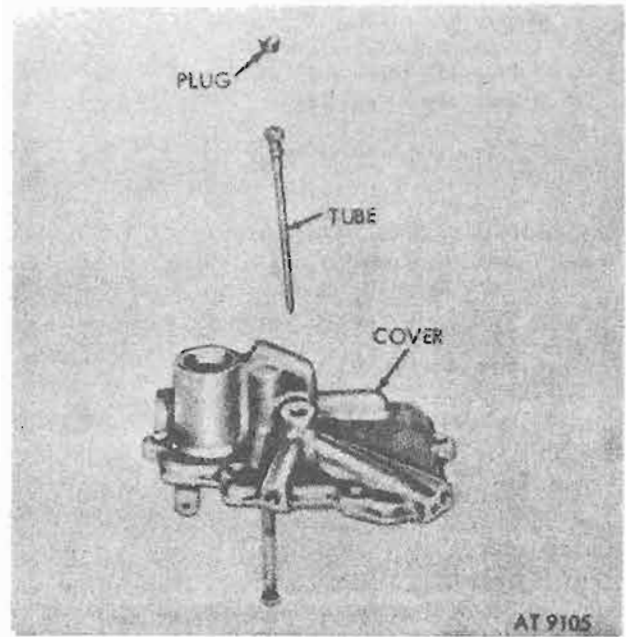
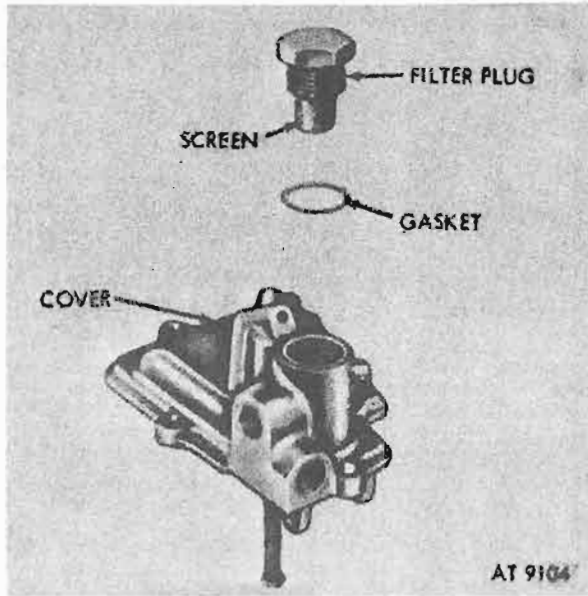

Figure 5-11. Idle tube and plug.
Figure 5-10. Fuel filter screen assembly and gasket.
- (4) Remove fuel filter plug, screen, and gasket from cover (fig. 5-10).
- (5) Remove idle tube plug and idle tube from cover (fig. 5-11).
Install idle tube and idle tube plug (fig. 5-11). Install fuel filter screen, plug and gasket (fig. 5-10).